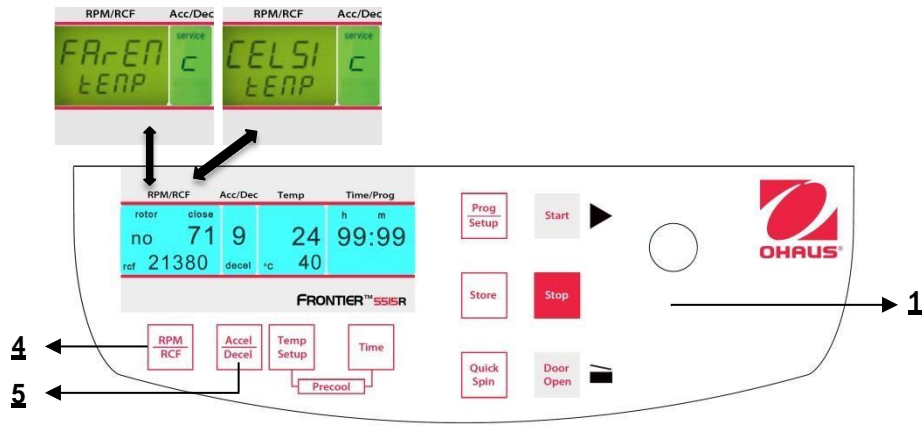

Figure. 32
Proceed as described under point 4.1.2 to enter this program mode and then press the key **"Accel/Decel"** (5). In the display **"Acc/Dec"** (A-2) the word **"Service"** appears. Now select the letter **"C"** with the adjusting knob (1). As a result, in the display **"RPM | RCF"** (A-1), the words **"CELSI/temp"** appear. If you press the key **"RPM | RCF"** (4), the word **"CELSI"** flashes and you can change the display into Fahrenheit **"FAREN"**, with the adjusting knob (1) (See figure 32).